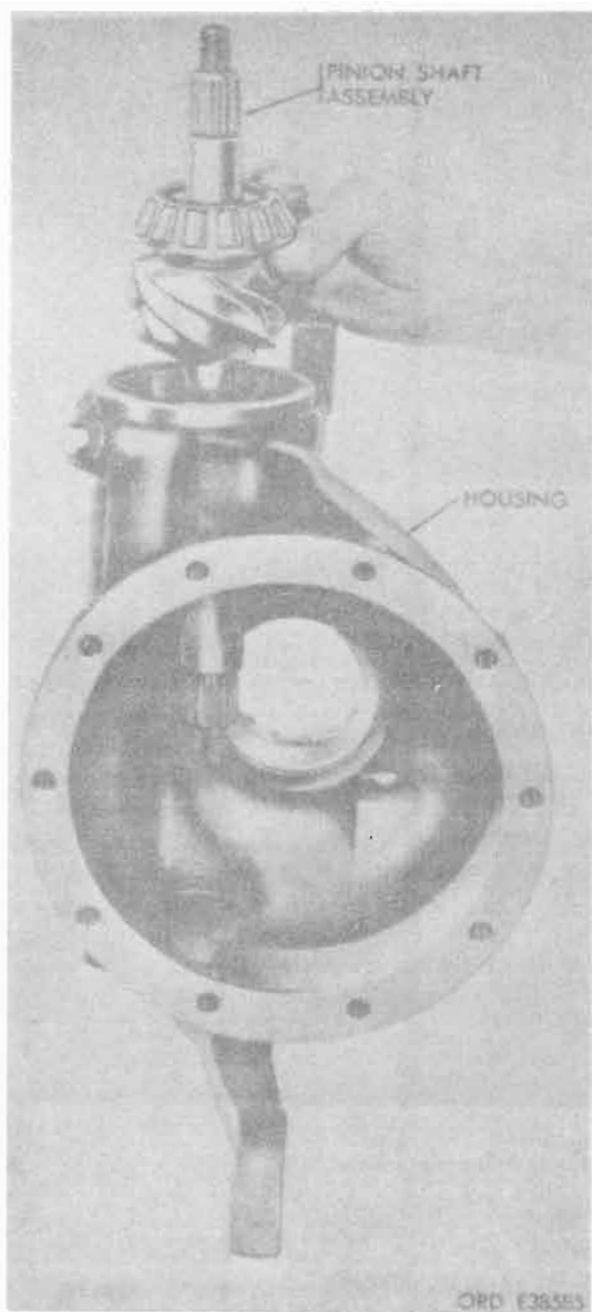

Figure 12-59. Installing pinion shaft in housing.
f. Install pinion assembly and pinion shim in housing (figs. 12-59 and 12-60).